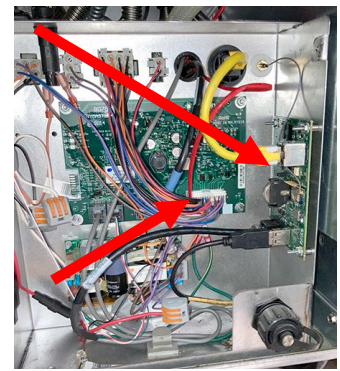

Figure 6
- The KCCM board is located on the right side or rear of the FIB box (see Figure 6) depending on date of manufacture. Prior to starting, disconnecting the J1 harness may provide easier access to the RJ connectors on the FIB board (see Figure 6 & 6A).